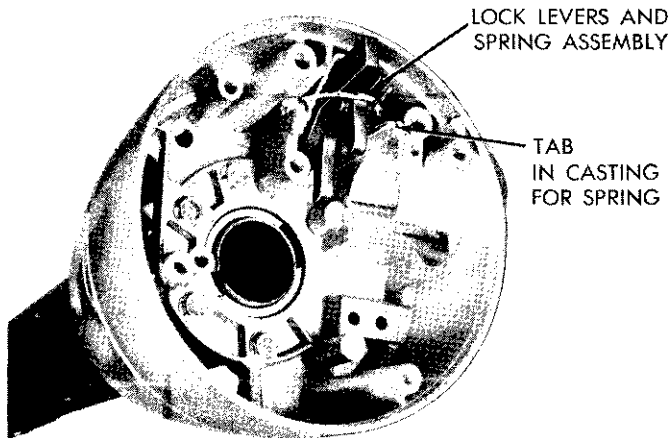

Fig. 12—Lock Levers and Spring Assembly Installed in Housing
- (5) Grasp lock lever and spring assembly and pull straight out of housing (Fig. 12).